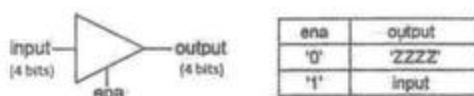

Figure Q3
3) ANSWER (A) OR (B)
- (A) A fundamental synthesizable value is 'Z' (high impedance), which is needed to create tri-state buffers, like that depicted in Figure Q3 (see its truth table). Write a VHDL code from which this circuit can be inferred. (10 Marks)